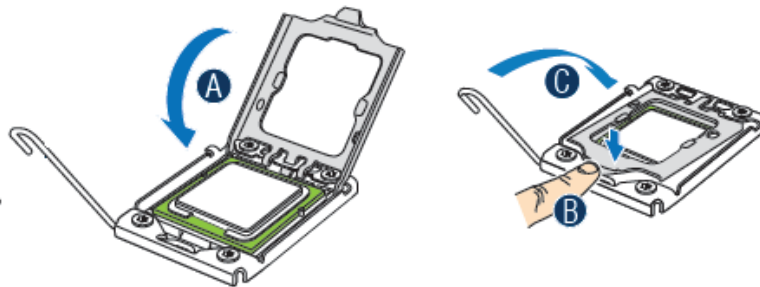

Figure 25. Close the Load Plate and Socket Lever
- Close the load plate (see the letter “A” in Figure 25), close the socket lever and ensure the load plate tab engages under the socket lever when fully closed. (See letter “B” and “C” in Figure 25)